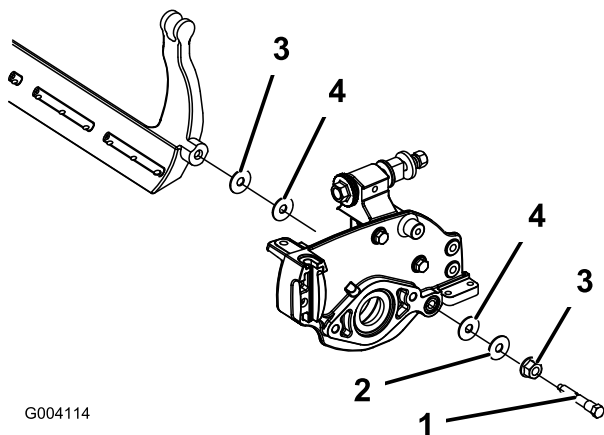

Figure 61
4. Remove each bedbar bolt allowing bedbar to be pulled downward and removed from machine. Account for 2 nylon and 2 stamped steel washers on each end of bedbar (Figure 61).